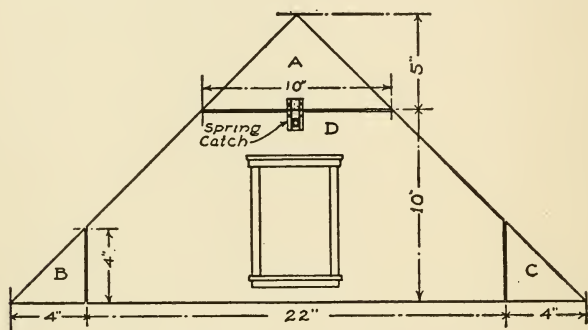

FIG. 109. — The Front Gable-end.
**The Gable-ends.** — The front gable-end consists of four pieces (*A*, *B*, *C*, and *D*, in Fig. 109), the dimensions for